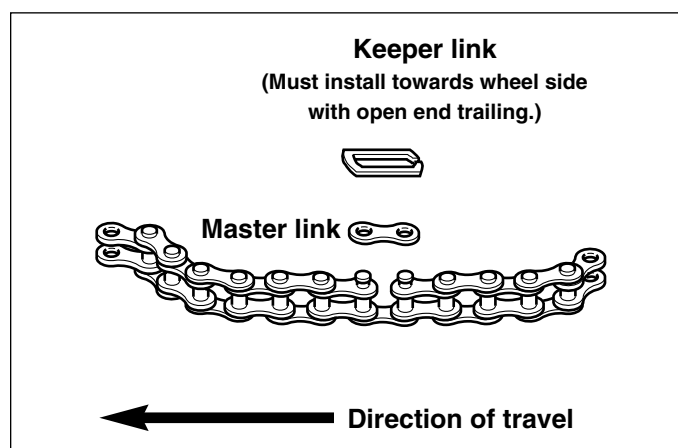

Figure 29. Roller Chain Master Link
6. Install new chain and master link as shown in Figure 29.